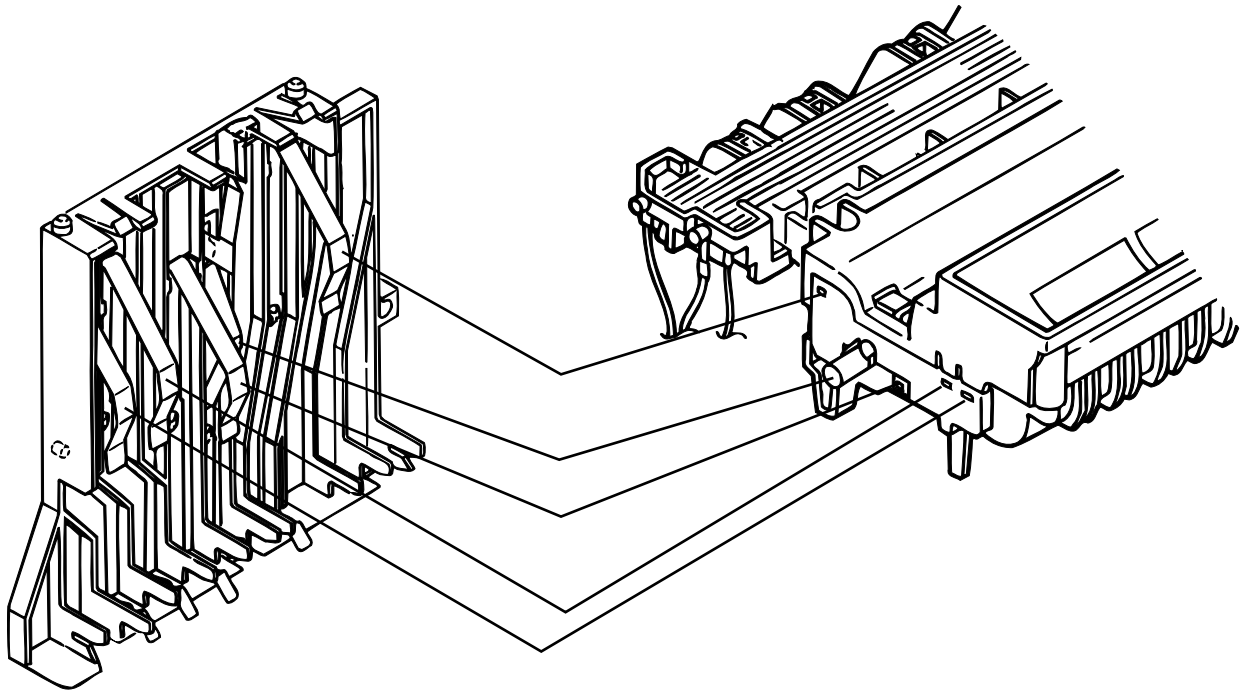

Figure 6-5
① Image are light or blurred a whole.
② Dark background density
- No Is the contact of the cleaning roller of the image drum cartridge contacted with a contact assembly properly? (See Figure 6-5 ③.)
③ Black paper is output.
- Yes Is the contact of the image drum cartridge contacted with the ground contact properly. (See Figure 6-5 ④.)
⑥ Print voids
- Is the contact plate of the transfer roller contacted with the Power Supply Unit (High Voltage) properly? (See Figure 6-5.)
- No Are the contacts of the toner supply roller, developing roller, image drum and charging roller contacted with the contact assy properly? (See Figure 6-5 (A), (B), (C), (D), (E).)